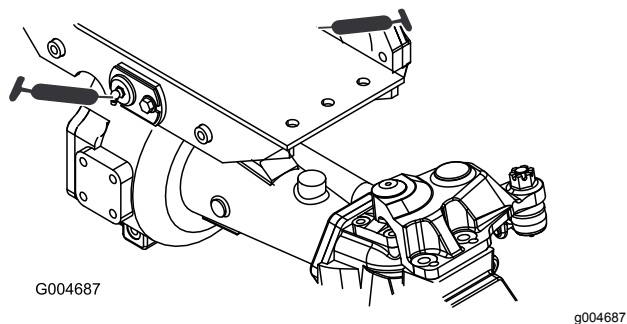

Figure 62
- 2 front and rear-axle-pivot bushings (Figure 62)